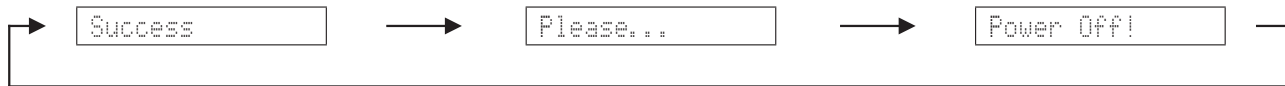

Fig. 3
3. When writing of the firmware is completed, "Success", "Please..." and "Power Off!" are displayed repeatedly. (Fig. 3)
3. ファームウェアの書き込み完了後、"Success"、"Please..."、"Power Off!" が繰り返し表示されます。(Fig. 3)